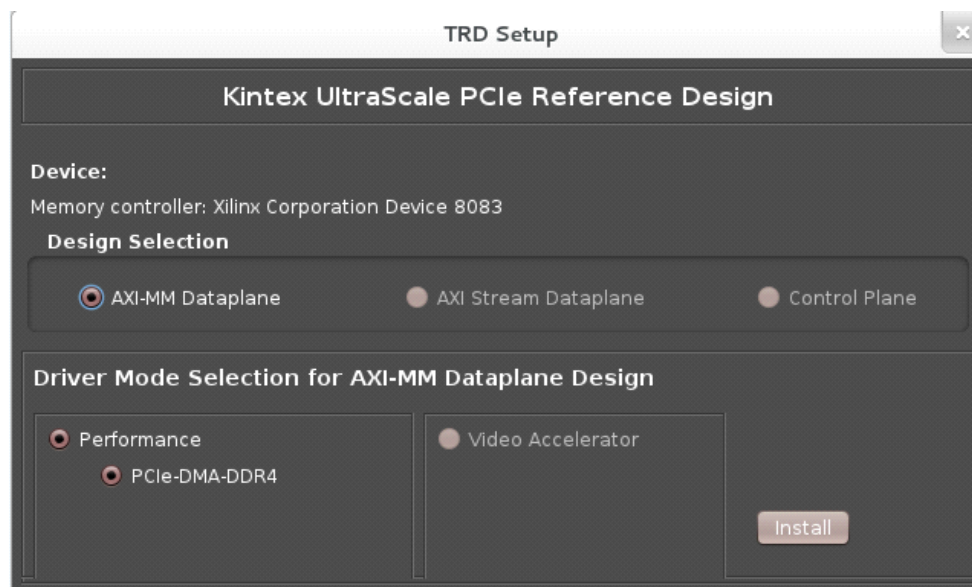

Figure 3-10: TRD Setup Screen on Linux
4. The TRD setup screen is displayed (Figure 3-10) and indicates detection of a PCIe device with an ID of 8083, an AXI-MM dataplane design selection, and a Performance/PCIe-DMA-DDR4 driver mode selection. Click **Install** and the drivers are installed. This takes you to the Control and Monitoring GUI as shown in Figure 3-14, page 29.